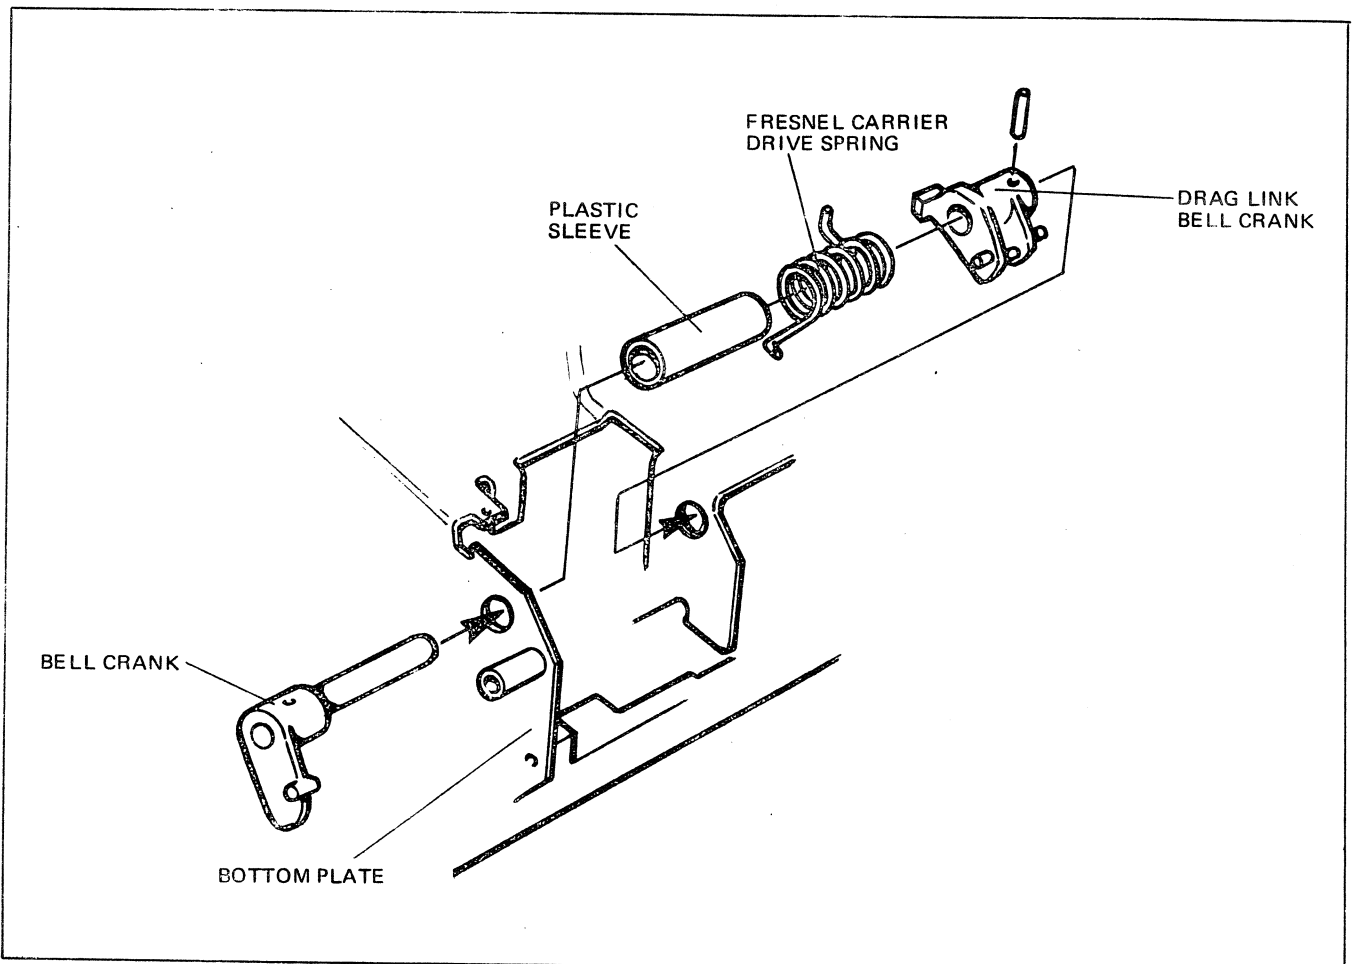

FIGURE 4-39 BELL CRANK ASSEMBLY
20. See Figure 4-39. Insert the plastic sleeve into the drive spring.
23. See Figure 4-39. Use tweezers to install the drag-link bell crank. The bell crank must be installed as shown on the illustration so that the bell crank will engage the slot in the drag link.